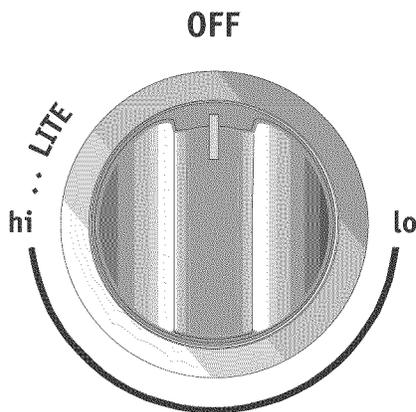

Figure 8: Gas knob **LITE** position
3. Release the knob and rotate to the **LITE** position (Figure 8). Note: All four electronic surface ignitors will spark at the same time. However, only the burner you are turning on will ignite.